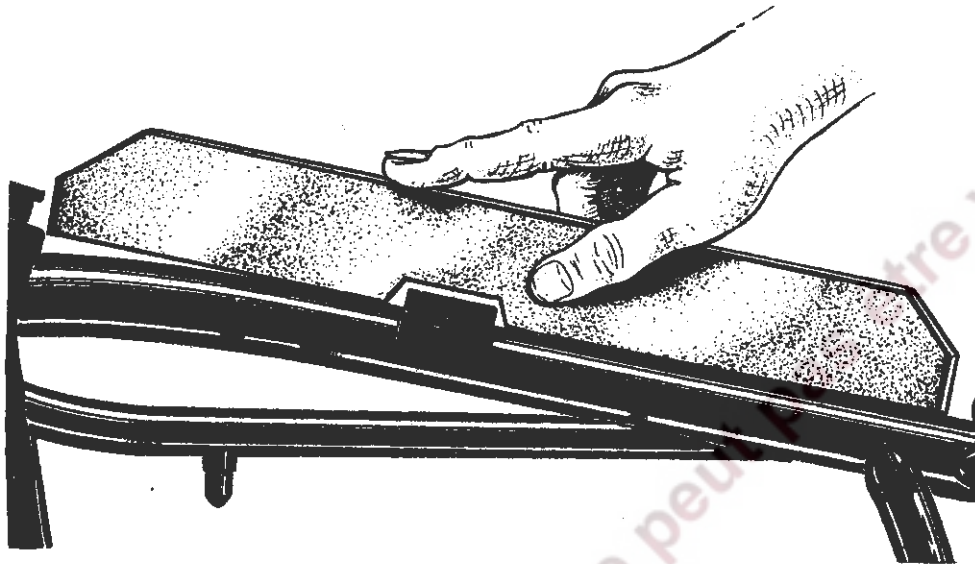

FIG. D.5. *Showing bent top tube.*
Sometimes if the machine has suffered a frontal impact, the main tube will be parallel at points (A) but will be bent as shown in Fig. D.5. The straight edge can be made quite easily from say a piece of good quality hard-board but, the checking edge must be quite straight.